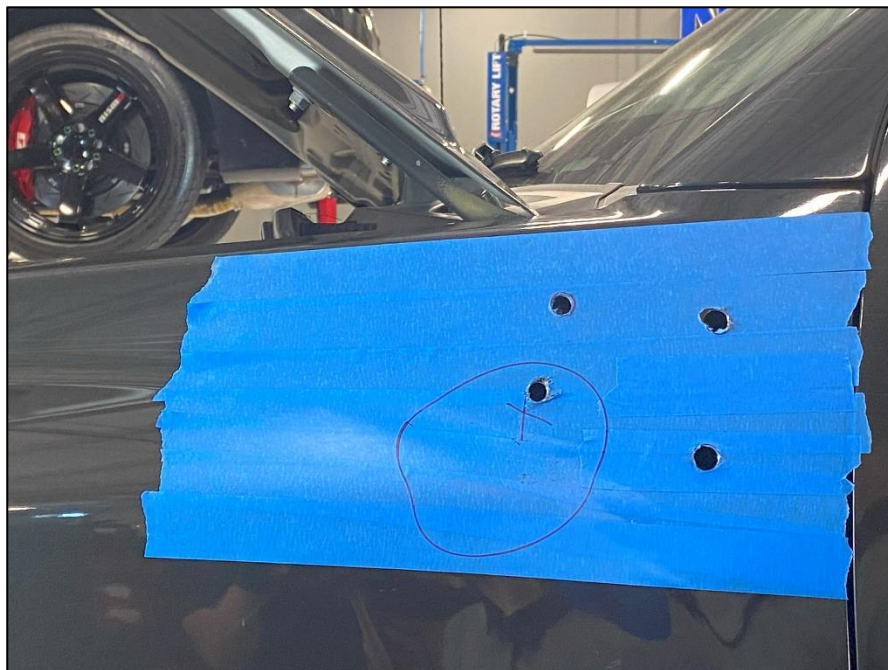

Figure 9
13. Drill a hole in the center of the large outline as a starting point for the next step. *Figure 9.*